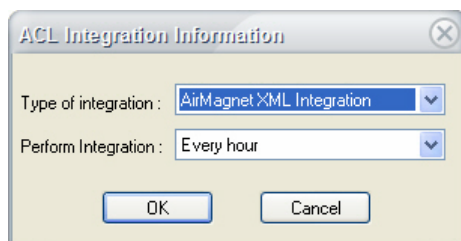

Figure 13-32: Importing an ACL
- 3) Click **+** (Add Info). The ACL Integration Information dialog box appears. See Figure 13-32.